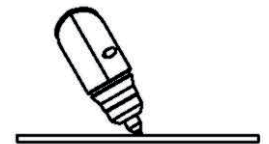

Figure 4
- When piercing with a hand torch, tip the torch slightly so that blowback particles blow away from the torch tip (and operator) rather than directly back into it. Figure 4.